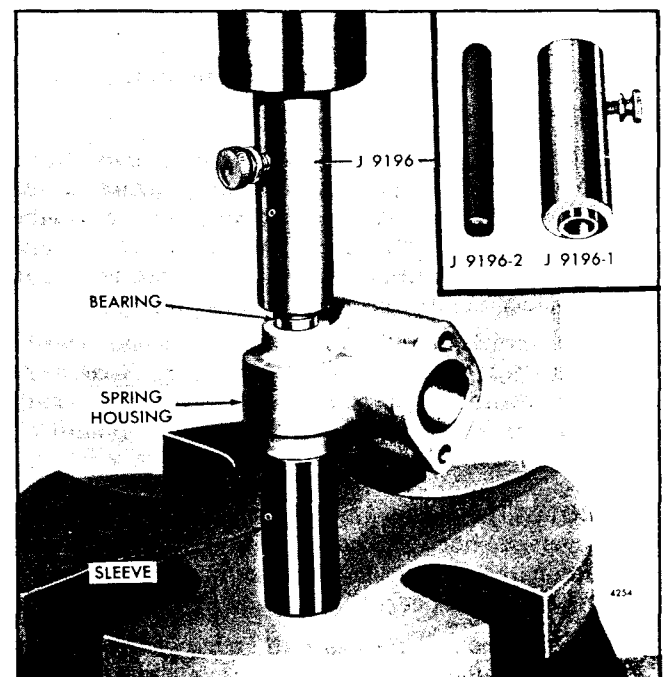

Fig. 15 - Installing Speed Control Shaft Bearings In Spring Housing
3. Place the pilot rod end of the bearing installer assembly in the bearing. Support the spring housing, bearing and installer on a short sleeve on the bed of an arbor press as shown in Fig. 15, then press the bearing in the housing until the shoulder on the installer contacts the housing.
10. Remove the bearing pilot rod J 9196-2 from the installer body J 9196-1 and place the installer body over the end of the shaft and against the bearing. Support the spring housing, bearings and installer on a short sleeve on the bed of an arbor press as shown in Fig. 15, then press the bearing in the housing until the shoulder on the installer contacts the housing.